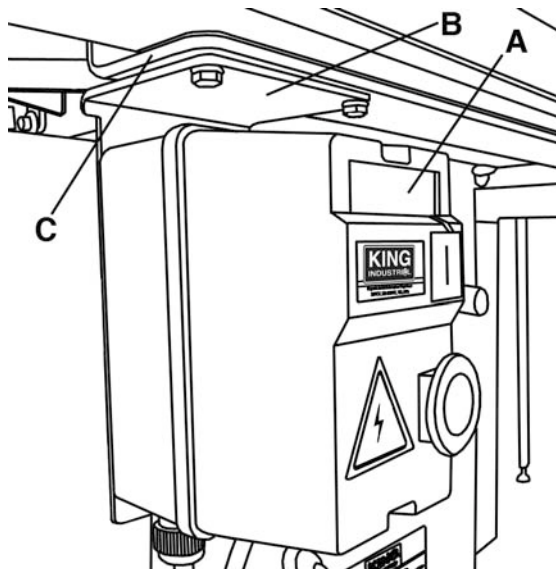

FIGURE 10
The magnetic safety switch (A) Fig.10 comes attached to a mounting bracket (B), mount the mounting bracket to the underneath the left end of the front rail (C) using 2 hex. bolts and washers.